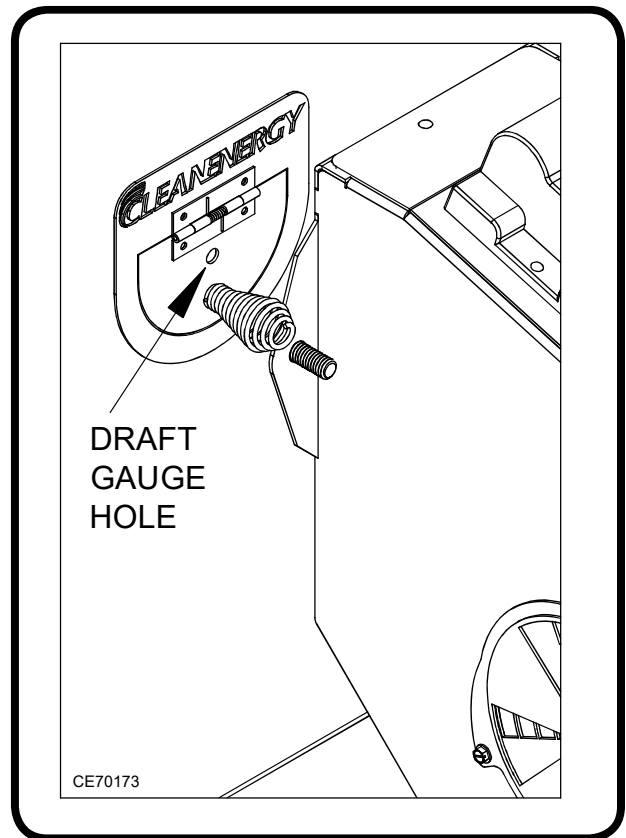

Figure 26: Draft Gauge Hole in the Observation Port
- (1) Allow the boiler to run for 5 to 10 minutes.
- (2) Refer to Figure 26 to locate the draft gauge hole.
- (3) Insert a draft gauge through the hole in the observation port. Follow the manufacturers instructions for adjusting the barometric damper to obtain  $-0.02''$  w.c. draft over fire.
- (4) If a proper draft is not obtained, follow the instructions below to check for a vacuum in your building.